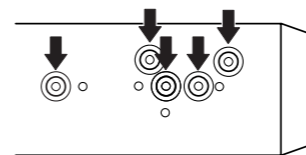
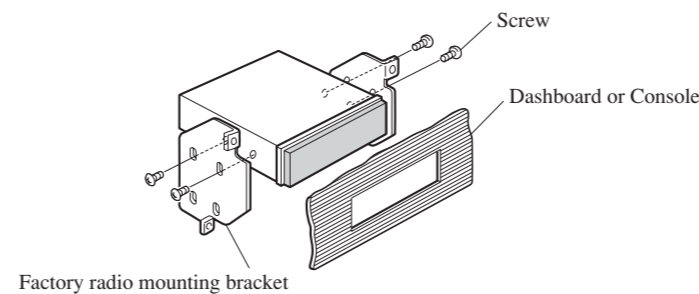

Fig. 9
Fig.10
**2. Fastening the unit to the factory radio mounting bracket. (Fig. 9) (Fig. 10)**